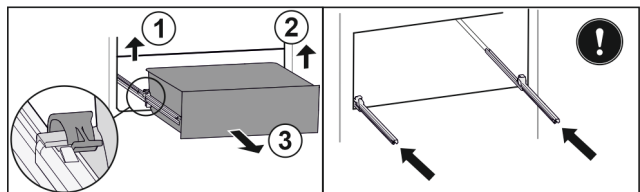

Fig. 155
- ▶ Lift left clamp and simultaneously pull drawer forwards on the left. Fig. 155 (1)
- ▶ Lift right clamp and simultaneously pull drawer forwards on the right. Fig. 155 (2)
- ▶ Remove drawer to the front. Fig. 155 (3)